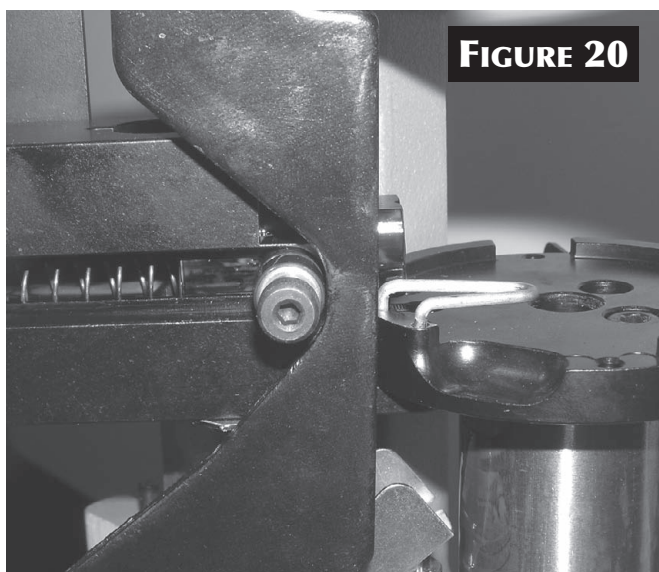

FIGURE 20
- **Fine Adjustment of Cam:** If you are experiencing a problem with the case not feeding all of the way into the shellplate (and/or sizing die) or bouncing back out of the shellplate, you will need to fine adjust the cam for each and every caliber that you are loading. You will want to start with a case from the caliber you are preparing to load in the first station of the shellplate. In the following procedure you will practically repeat the steps for setting up the cam on initial installation with the exception of letting the plunger rest on the case in the shellplate instead of the housing. Pull the operating handle down until roller on casefeed plunger reaches about the center of the flat on the cam and the plunger is resting on the case in the shellplate. Loosen the cam and slide it in or out until it is just barely touching the roller, then re-tighten the mounting bolts on the cam, be sure not to release the handle until tightened. Once you have finished loading the caliber that you have fine-tuned the cam for, you will want to return it to its original position by repeating the setup steps in Note 9 [FIGURE 20].